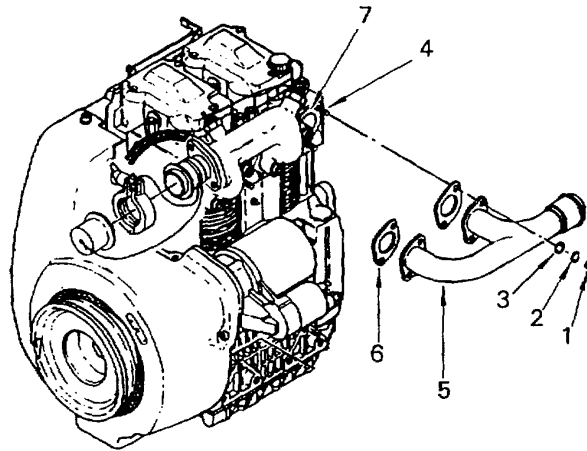

Figure 4-21. Exhaust Manifold Replacement
4.14.5 Replace Exhaust Manifold. (Refer to figure 4-21.)